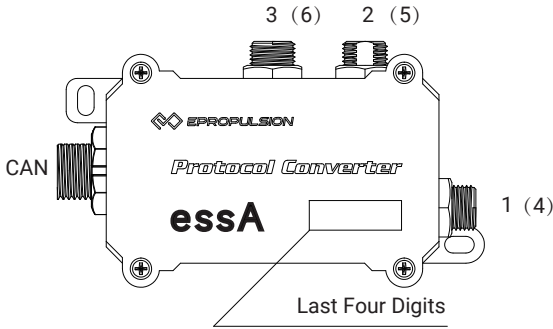

Figure 1-9
- 1、 When installing one 485 essA box, the number of the MPPT controller is as shown in Figure1-9;
The A end of the CAN cable is connected to interface 4 of the 485essA box (refer to Figure 1-9).
When there is only one 485essA box, interface 3 of the T-Terminal (refer to Figure 1-9) is connected to the B end of the CAN cable and interface 1 is connected to the CAN bus. When there are two or more 485essA boxes, the interface 3 and interface 1 of the two T-Terminals are connected to each other, and then connected to the B end of the CAN cable and the CAN bus.